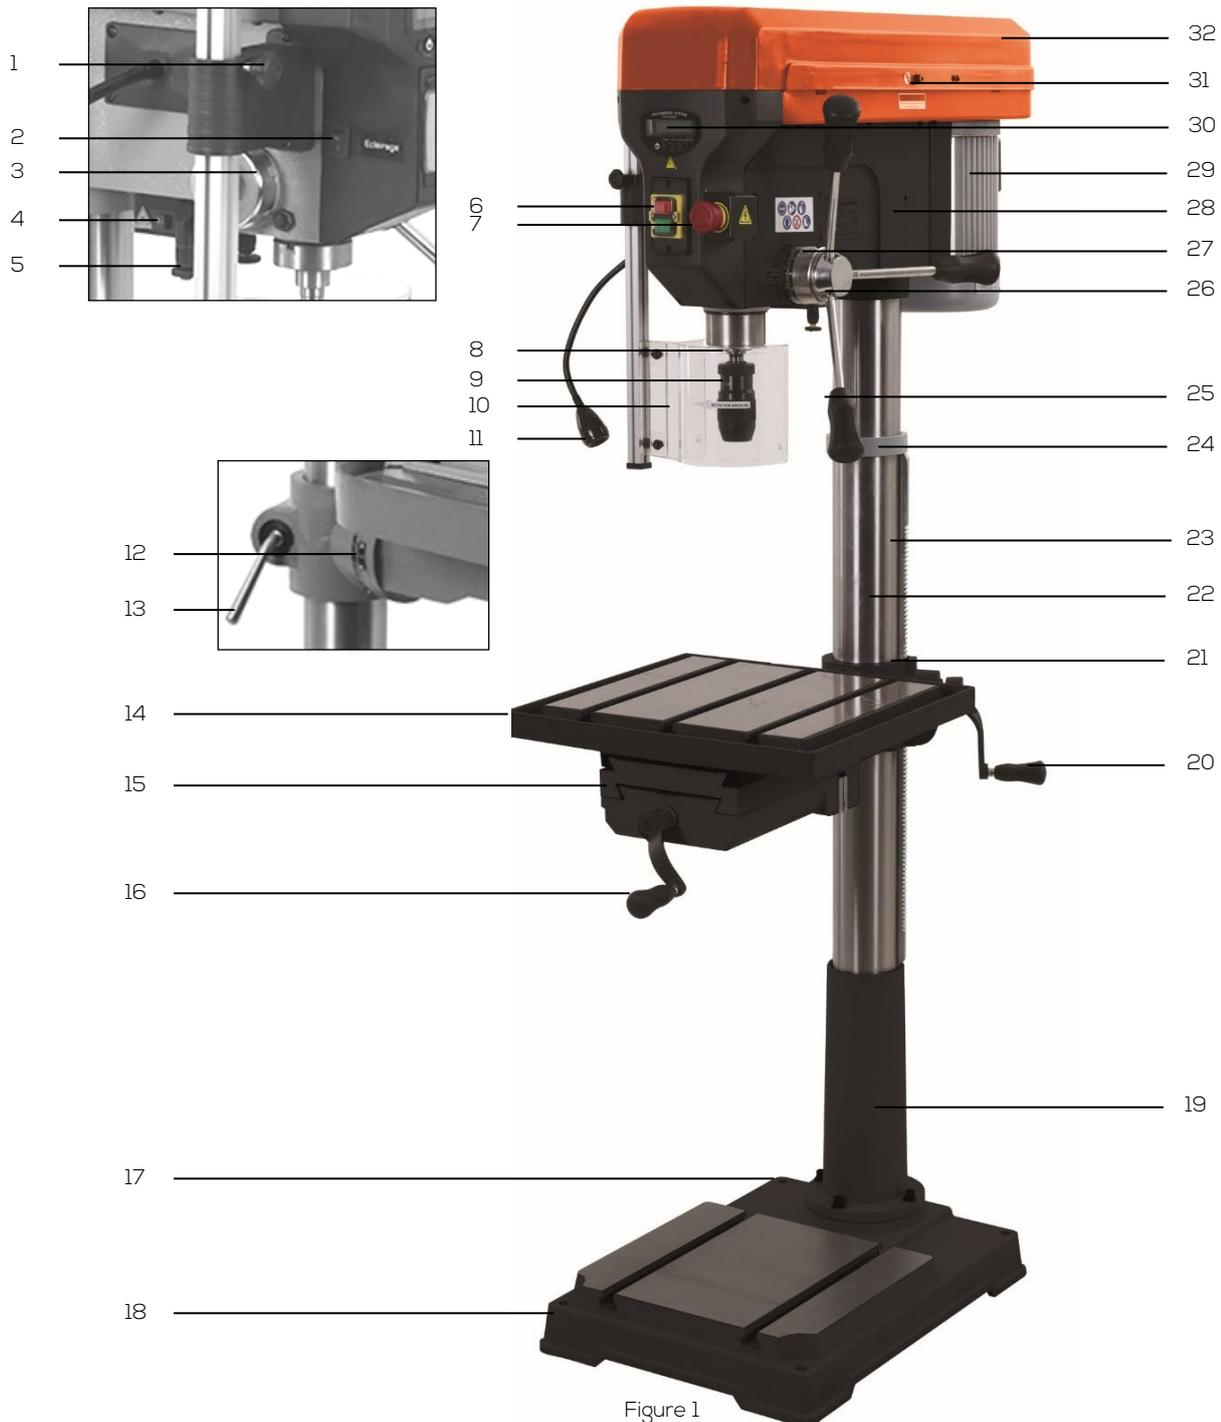

Figure 1
4. Remove the rack (B) from the column.
5. Insert the locking handle for the table-vice support collar (13 fig.1).
12. Tighten the locking handle on the vise table support collar (13 fig.1).
Drill fixing holes in line with the base fixing points (17 fig.1) and proceed with fixing.